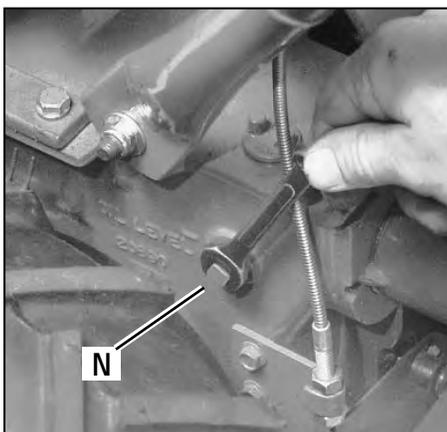

Figure 2-11: Gear oil level check plug.
3. Remove the oil level check plug (N, Figure 2-11) on the left-side of the transmission. (Due to dried paint on the plug threads, it may require some force to remove the plug the first time.) The gear oil level is correct if oil starts to flow out of the hole as the plug is removed. If so, securely reinstall the plug.
- (b) Using a clean funnel, slowly add gear oil until it flows from the oil level check hole (N, Figure 2-11). Securely reinstall the oil level check plug (N).